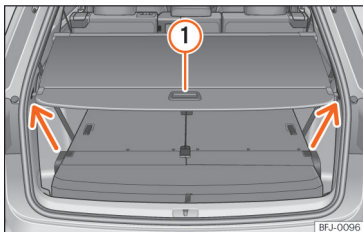

Fig. 193 In the boot: shelf of the boot closed.
- Pull the cover backwards with the handle >>> Fig. 193 ① and remove it above the anchor point (arrows). Move the cover forward carefully.